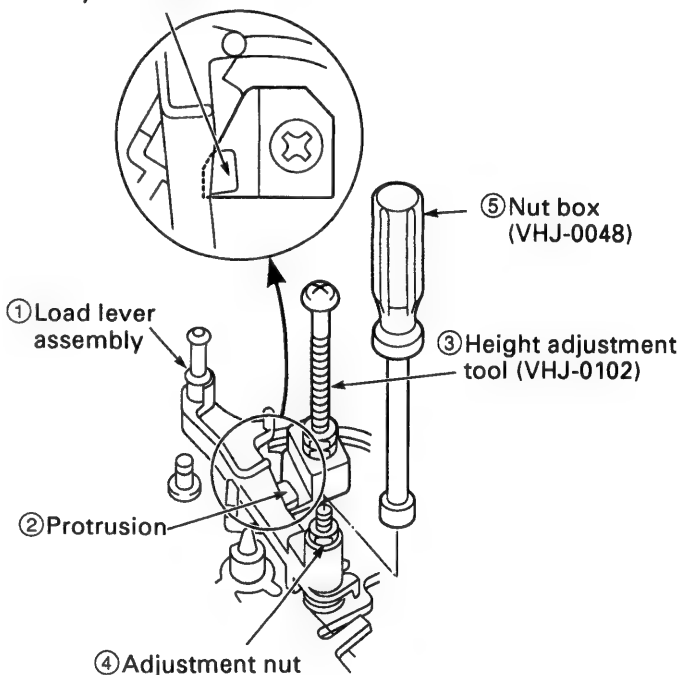

Fig.4-3-2
ADJUSTMENT (See Fig.4-3-2)
2. Position the height adjustment tool (VHJ-0102)③ under the full surface of the protrusion ② on the load lever assembly ①, as shown in Fig.4-3-2.
3. Using your fingers, gently screw the adjustment nut ④ clockwise into the nut box (VHJ-0048) ⑤ until the protrusion ② of the load lever assembly ① touches the height adjustment tool (VHJ-0102) ③ and the screw starts to feel tight. Next, loosen the adjustment nut ④ by 270° anticlockwise.